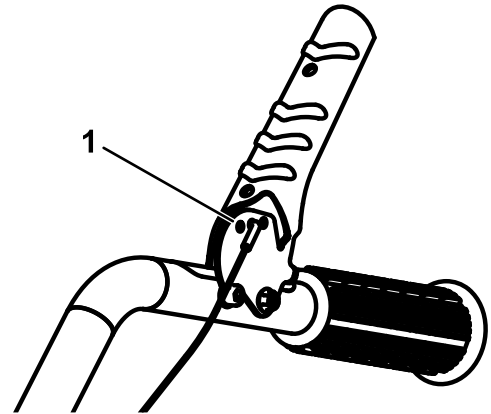

**Figure 14**
- Nut—M8 (2)
- Bolt—M8 x 40 mm (2)
2. Install the middle dash panel. Route the engine switch cable through the hole on the left side of the panel as shown in Figure 14.